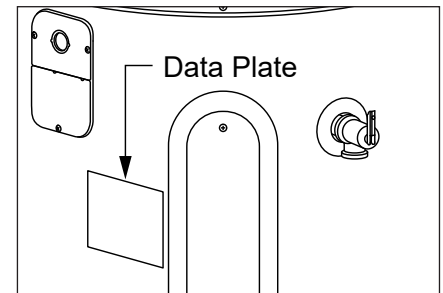

Figure 24 - The water heater’s electrical requirements can be determined from the data plate.
- 3 This water heater requires a 208/240 VAC single phase 30 amp power supply, at 50Hz or 60Hz. Check the water heater’s data plate (Figure 24) and ensure that the home’s voltage, wiring size (ampacity) and circuit breaker rating and type are correct for this water heater. Refer to